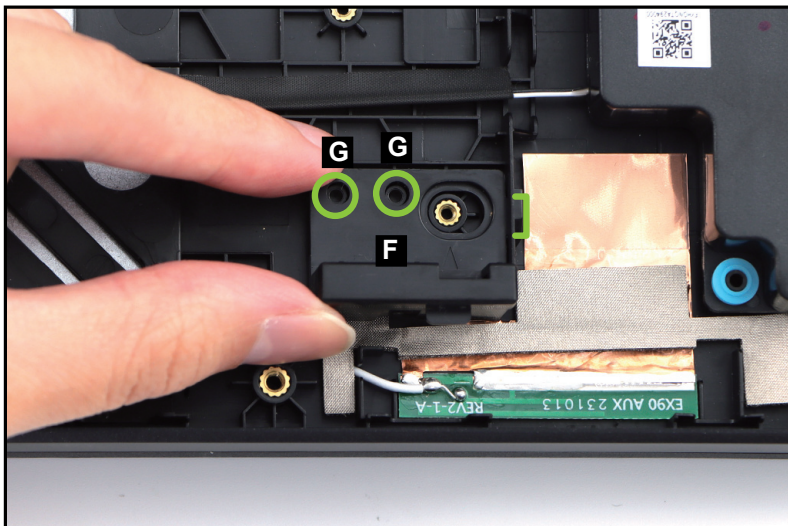

Figure 1-12. Battery Pack Removal
6. Lift the battery holder (F) to release it from the guide pins (G) and the compartment stud (highlighted with the green lines) (Figure 1-12). Then remove the battery holder.